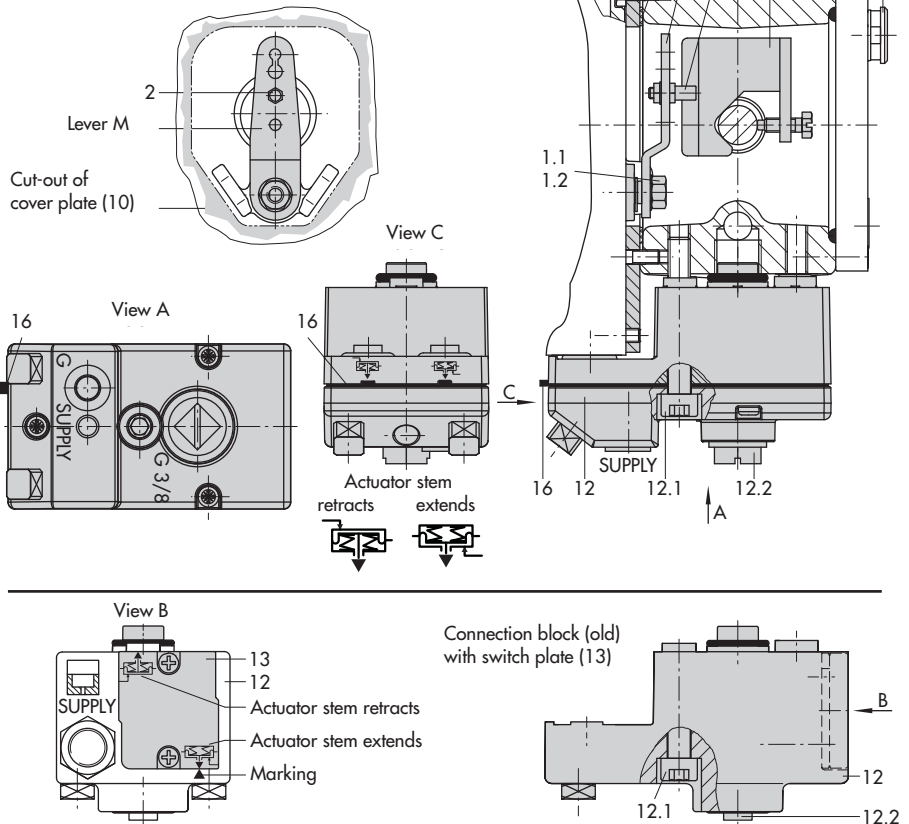

Fig. 5 · Direct attachment – Signal pressure connection for Type 3277 Actuator with 175 to 750 cm2
Mount the positioner on the yoke as shown in Fig. 5. The signal pressure is routed to the actuator over the connection block (12), for actuators with fail-safe action "Actuator stem extends" internally through a bore in the valve yoke and for "Actuator stem retracts" through external piping.
1. Place follower clamp (3) on the actuator stem, align and screw tight so that the mounting screw is located in the groove of the actuator stem.
2. Mount cover plate (10) with narrow side of the cut-out opening (Fig. 5, on the left) pointing towards the signal pressure connection. Make sure that the bonded gasket (14) points towards the actuator yoke.
3. For actuators with 355, 700 and 750 cm2, remove the follower pin (2) at lever **M** (1) on the back of the positioner from pin position **35**, reposition it in the bore for pin position **50** and screw tight. For actuators 175, 240 and 350 cm2 with 15 mm travel, the follower pin (2) remains in pin position **35**.
4. Insert formed seal (15) in the groove of the positioner casing.
5. Place positioner on the cover plate in such a manner that the follower pin (2) rests on the top of the follower clamp
6. Make sure that the tip of the gasket (16) projecting from the side of the connection block (12) is positioned above the actuator symbol that corresponds with the actuator with fail-safe action "Actuator stem extends" or "Actuator stem retracts." If necessary, remove the three fixing screws and the cover. Then reposition the gasket (16) turned by 180°. The previous version of the connection block (Fig. 5, bottom) requires the switch plate (13) to be turned such that the corresponding actuator symbol points to the marking.
7. Place the connection block (12) with the associated seal rings against the positioner and the actuator yoke. Screw it tight using the fixing screw (12.1). For actuators with fail-safe action "Actuator stem retracts", additionally remove the stopper (12.2) and fit on the external signal pressure piping.
8. Mount cover (11) on the other side. Make sure that the vent plug points downwards when the control valve is installed to allow any condensed water that collects to drain off.